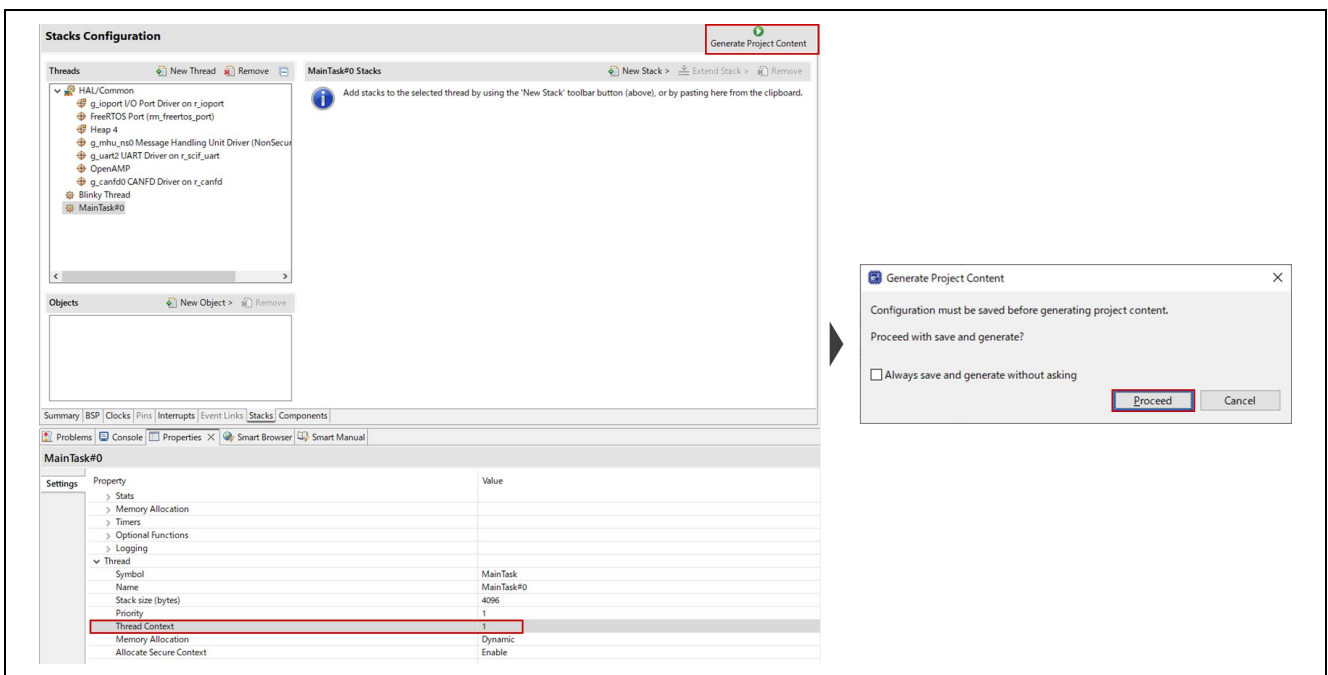

Figure 4-4. RPMsg Channel Setting
1. Choose **rzv2l_cm33_rpmsg_linux-rtos_demo Debug_Flat** or **rzv2l_cm33_rpmsg_linux-rtos_demo Release_Flat** from the drop-down list indicated by a red arrow in Figure 4-4.